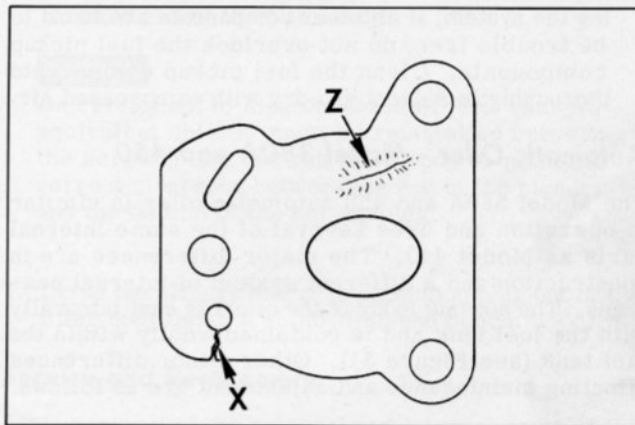

Figure 30.
4. Damaged Gasket (see Figure 30)